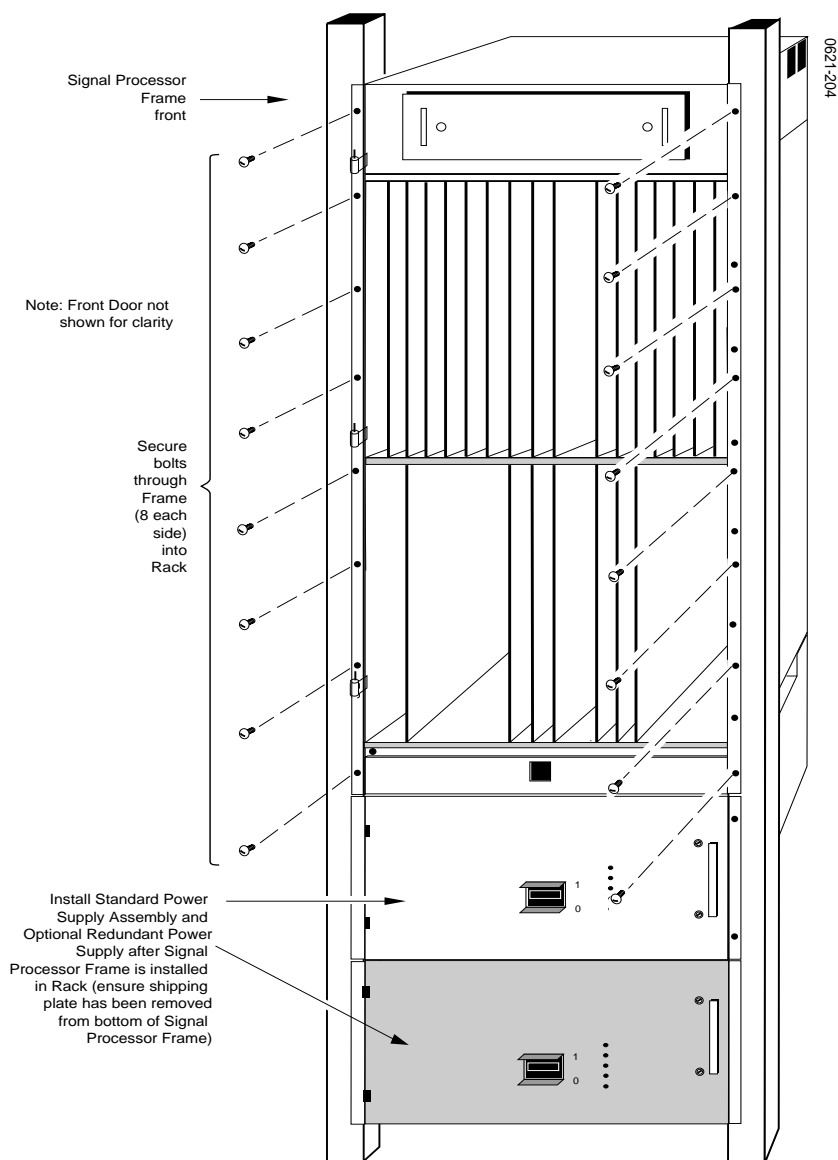

Figure 2-14. Frame Installation
To install the Frame in the equipment rack, read the following precautions, then refer to Figure 2-14 and complete the following steps:
9. Secure the front of the Power Supply assembly to the rails by installing the appropriate 1/4" (6.4 mm) length rack screws. (*Use optional [not supplied] flat nylon washers with the rack screws to protect the equipment finish.*) The finished power supply installation will appear as illustrated in Figure 2-14.